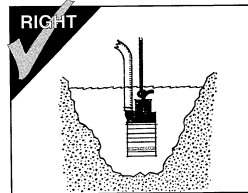

FIG. 12
**NEVER** attempt to use the power cord or hydraulic hoses as a lifting or lowering device for submersibles. Attach a lifting cable to the manufacturer's recommended attachment point on the pump for lowering and lifting the pump. (FIG. 12)